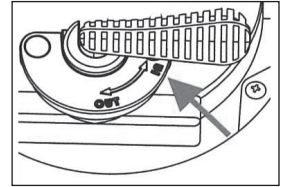

Figure 3
2. Turn the lever to the "IN" position (Figure 3).